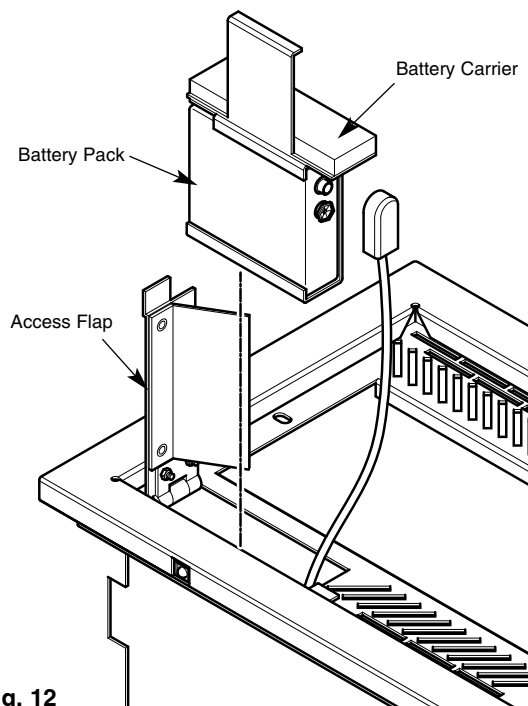

Fig. 12
1. Open the access flap located at the front left hand side of the black decorative panel (Fig. 12).